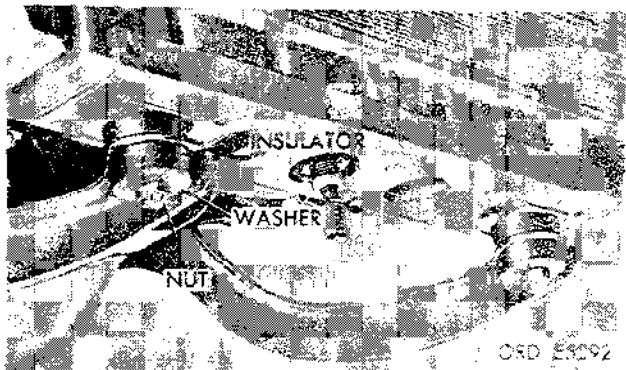

Figure 2-52. Mounting nuts, washers and insulators.
(6) Remove two lower mounting nuts, washers and insulators (fig. 2-52).